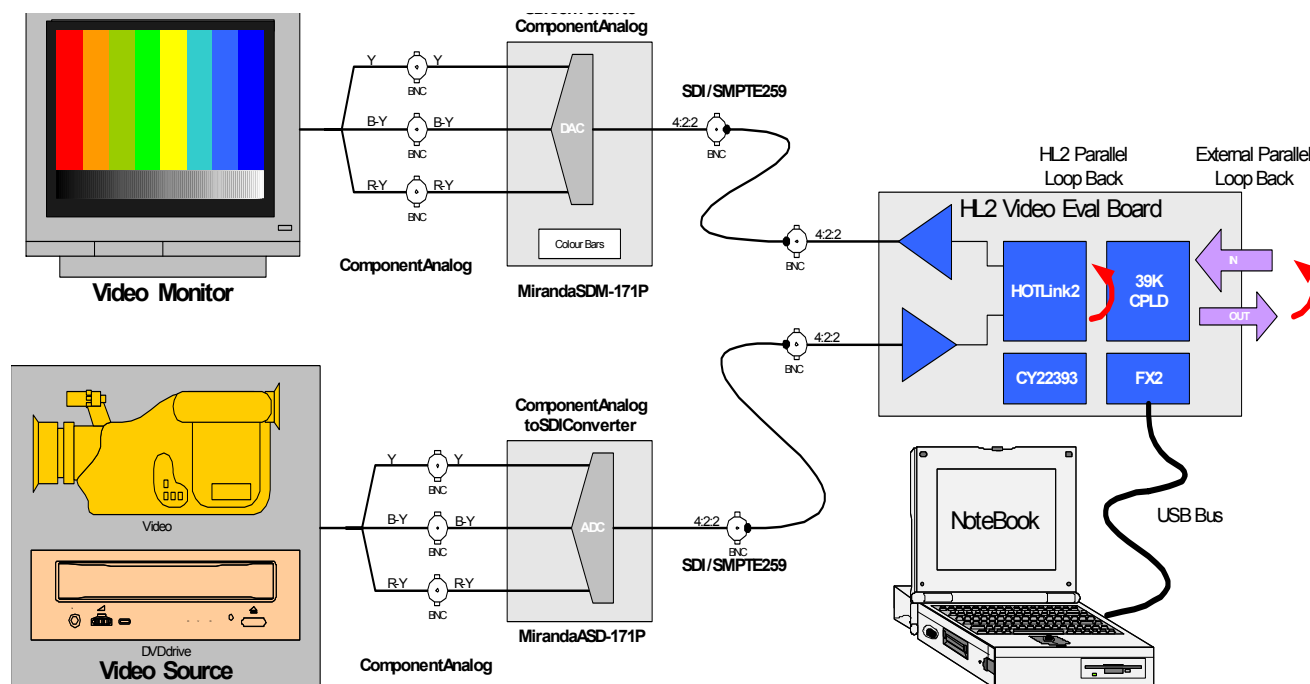

Figure 5-5. Parallel Loop Back Hardware Test Set-up
These tests are a quick way of confirming that the board works for video applications. Other equipment required for this test (as shown in *Figure 5-5*) are a video source (DVD, video camera etc.), an A/D converter to convert the analog video from the source to a digital stream (either DVB-ASI or SMPTE 259M), a D/A converter to convert the digital streams back to analog, and a monitor to view the output from the source. The tests are performed by looping the serial outputs back to the serial inputs on the HOTLink II video board either through the CPLD or through external jumpers (LVTTTL). Most of these tests require an external clock that is frequency and phase locked to 1/10 the input serial data rate to make the system synchronous (DVB loop back test can use one of the internal clocks). The clock for the example shown will need to
- Connect a serial input (J11) to a SMPTE 259M source for the first three tests or a DVB-ASI source for the fourth test. Hardware test set-up is shown in *Figure 5-5*.